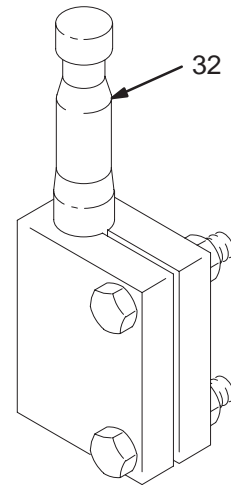

Fig. 13
13. Remove the screws (28) and lockwashers (2) from the piston plate (27). Loosen the piston nut (16). Use Tool Kit 220385 to remove the piston shaft (32) and piston nut (16). See Fig. 13. Remove the piston nut from the shaft. Remove the plate (27) and the seal (45) from the piston (24).
14. Inspect the piston shaft (32). If it is damaged or the surface is scored, replace it.
17. Install the piston plate (27) with the beveled edge facing away from the piston seal. Apply medium strength liquid thread adhesive lightly to the piston screws (28) and install two of the screws and lockwashers (2).